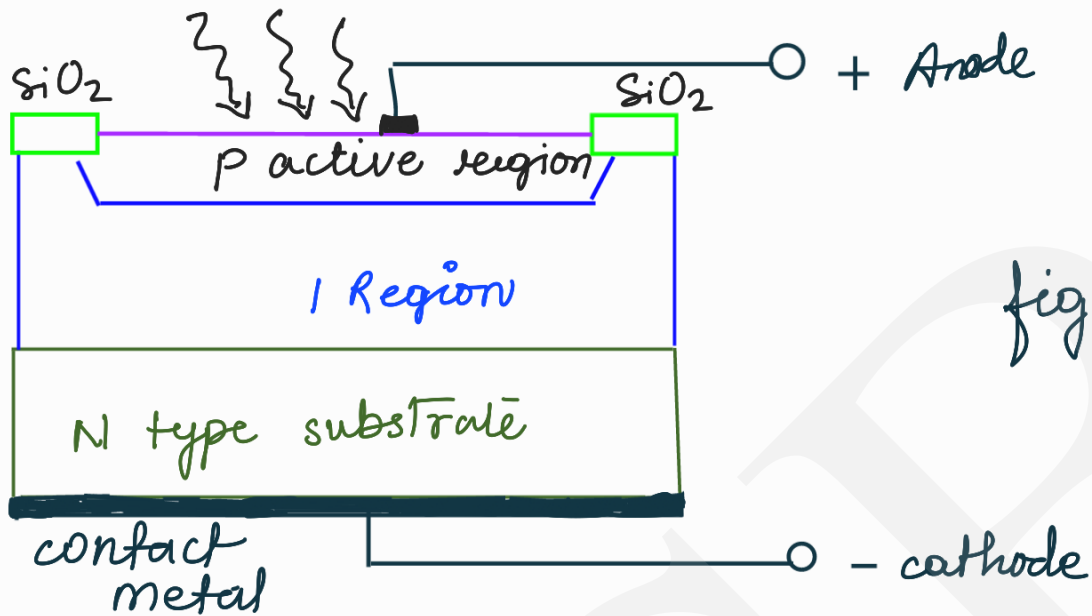

fig 2.
1. Trailayer assembly of N type, Intrinsic & P type semiconductor is formed. (fig 2)